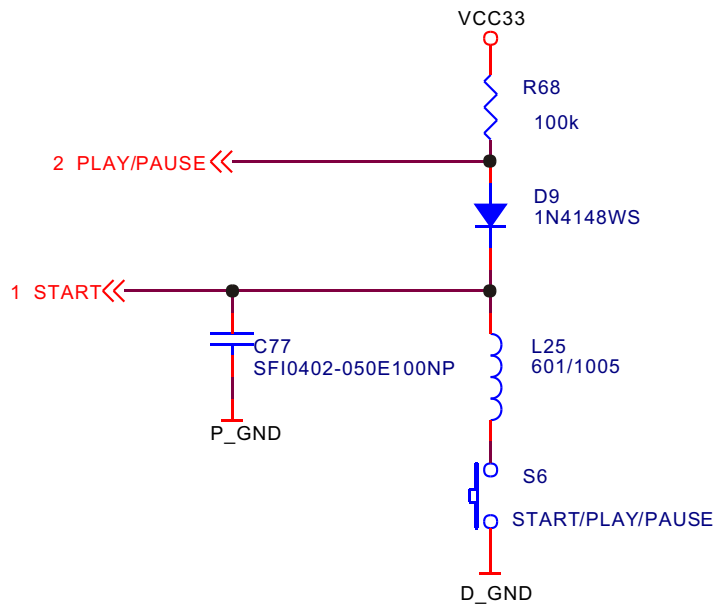

Figure 3.2.10.1 Poweron/off control circuit diagram
1. Power on/off circuit diagram is shown in the figure 3.2.10.1: